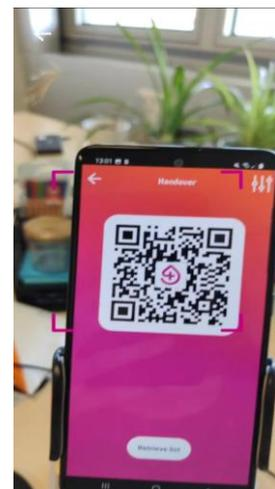

Figure 39. Courier driver 1 QR code scanning
- a) Tap the "SCAN" button on the home screen, place the smartphone such that the camera faces the QR code on the smartphone of the other courier driver (see Figure 39).